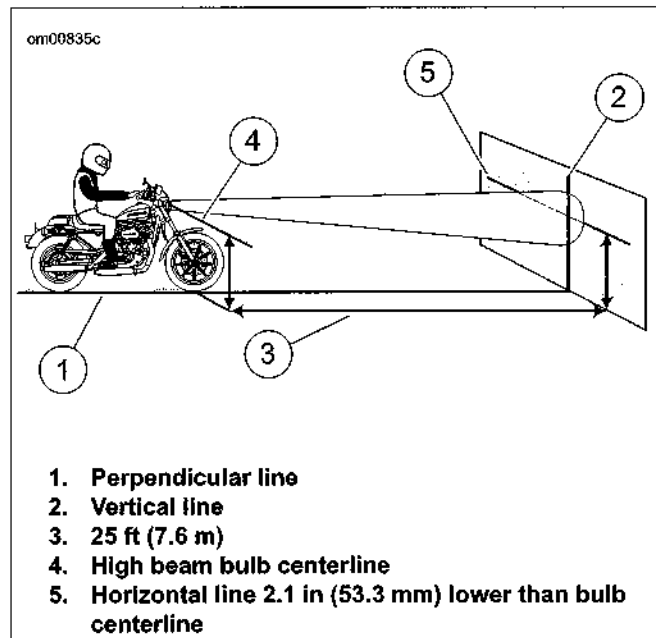

Figure 1-55. Headlamp Alignment: Sportster Models
4. See Figure 1-55. Park the motorcycle in a line (1) perpendicular to the wall.
6. Draw a vertical line (2) on the wall.
7. With the motorcycle loaded, point the front wheel straight forward at wall. Measure the distance (4) from the floor to the center of the high beam bulb.
8. Draw a horizontal line (5) through the vertical line on the wall. Place line 2.1 in (53.3 mm) lower than the measured bulb centerline.
See Figure 1-55. The headlamp is aligned when the light beam hot spot is located over the intersection of the lines.